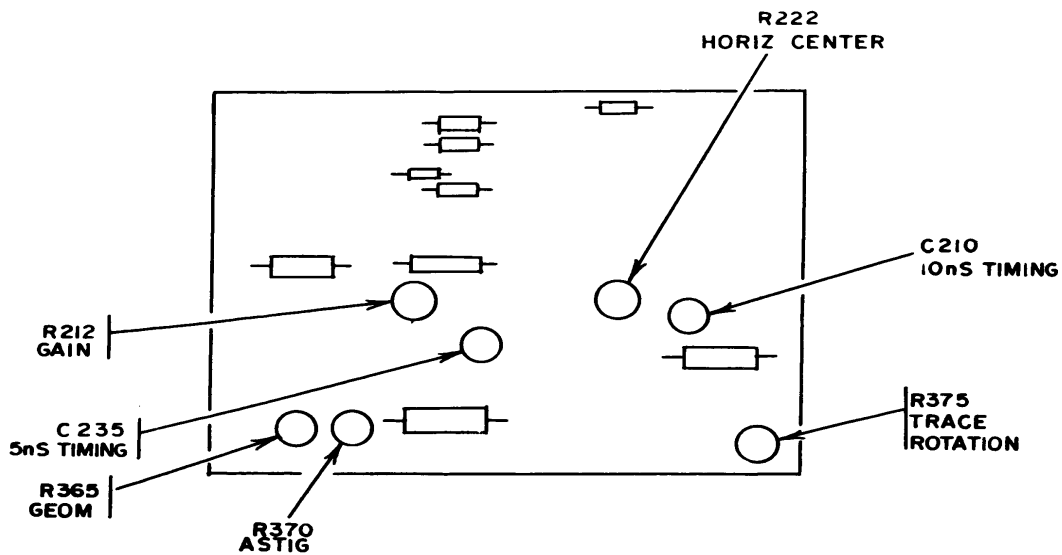

Figure 3. Horizontal circuit board (top).
(3) Adjust TI INTENSITY control for a normal display.
(4) Set time base MAIN SEC/ DIV switch to AMP (fully ccw) and adjust TI FOCUS control fully cw. If displayed spot on TI screen is not round, perform **b** below. It may be necessary to readjust INTENSITY control.
(5) Set time base MAIN SEC/DIV switch to 1 ms.
b. Adjustments. Adjust ASTIG R370 (fig. 3) and TI FOCUS control simultaneously to obtain best defined spot on TI screen.
b. Adjustment. Adjust TRACE ROTATION R375 (fig. 3) until trace is aligned with TI center horizontal graticule line.
- (1) Press TI POWER switch to off.
- (2) Remove time base (A4) from TI right compartment and install in center compartment.
- (3) Remove vertical amplifier (A6) from TI left compartment and install in right compartment.
- (4) Pull TI POWER switch to on.
- (5) Adjust TI FOCUS and INTENSITY controls for a well defined trace that extends vertically above and below graticule area.
- (6) Adjust vertical amplifier POSITION control to move TI trace across entire graticule area. If trace bows or tilts greater than 0.1 division anywhere on graticule area, perform **b** below.
b. Adjustment. Adjust GEOM R365 (fig. 3) for minimum bowing or tilt of trace at left and right edges of graticule. It may be necessary to readjust R365 to obtain less than 0.1 division of bowing and tilt everywhere on graticule area.
(1) Pull TI POWER switch to on. If a vertical trace is not displayed within ± 0.5 division of TI center vertical graticule line, perform **b** below.
b. Adjustments. Adjust HORIZ CENTER R222 (fig. 3) to position trace to TI center vertical graticule line.
(1) Set calibration fixture (A2) TEST switch to VERT OR HORIZ GAIN and adjust POSITION control to align bright center trace on TI with center vertical graticule line.
(2) If center seven traces do not coincide within ± 0.25 division of respective vertical graticule lines, perform **b** below.
b. Adjustments. Adjust GAIN R212 (fig. 3) for a 6-division deflection over center seven vertical graticule lines (R).